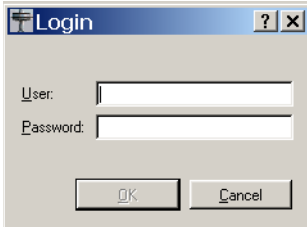

Figure 4.8 - Login request
2. A window will appear to login to the database by entering a user and password (see Figure 4.8).